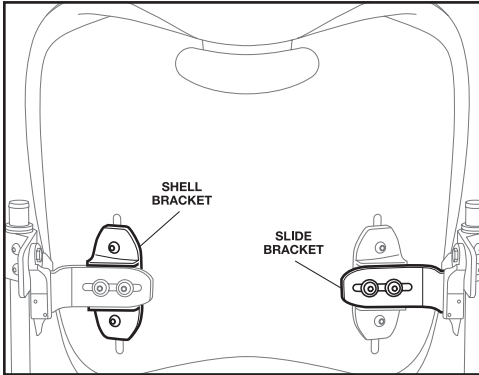

Fig. 4
A. Icon™ Back System (See Fig. 4 for components)